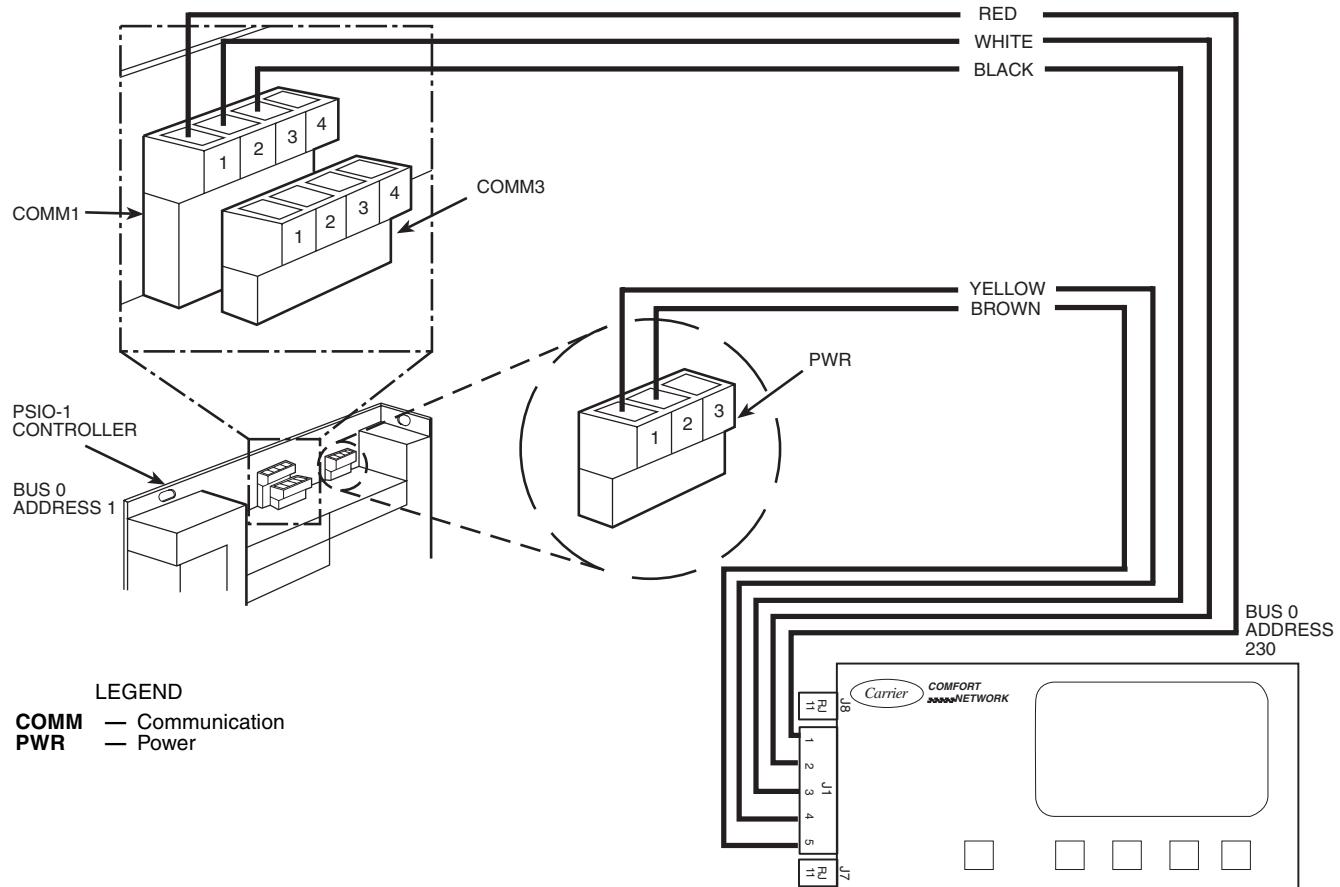

Fig. 5 — Connecting Remote Enhanced Display to PSIO-1 (30GX,HX PSIO Based Units)
2. Attach field-supplied conduit connector and conduit from the remote enhanced display box to the top (30HX) or bottom (30GX) of the chiller control box. Route the power leads and the COMM cable inside the chiller control box and down to the PSIO-1 controller. See Fig. 5.
Attach the communication cable wires to the PSIO-1 communication (COMM1) connector, according to the connection diagram in Fig. 5 and list in Table 6. Connect the red wire from the enhanced display to pin no. 1 on the COMM1 connector; connect the white wire to pin no. 2, and the black wire to pin no. 3. Ensure that the existing wires in the COMM1 connector are reinstalled correctly.